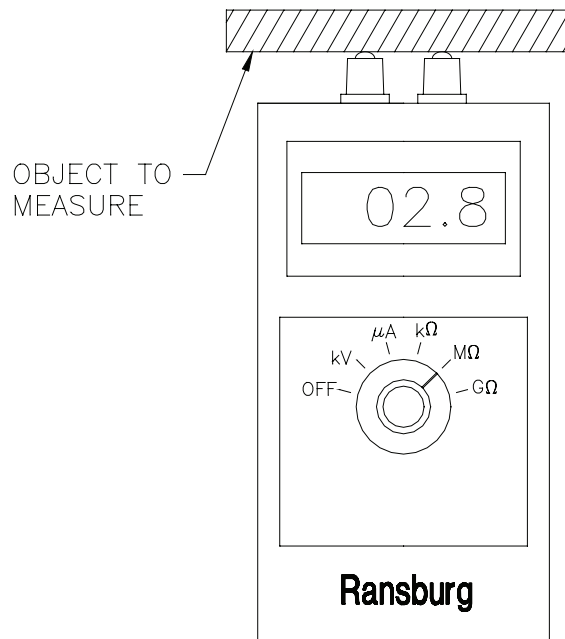

Figure 2: Sprayability Test Meter
1. Set the meter dial to the $M\Omega$ or $G\Omega$ scale (see Figure 2). Check the meter calibration by touching the metallic end of the two (2) probes on the meter to the stripped bare ends of a single 12" long wire (see Figure 2). (If desired the continuity of the wire may be verified by using a Volt-Ohm meter). If the meter reads zero, the meter is in calibration. If it does not read zero, verify the continuity of the